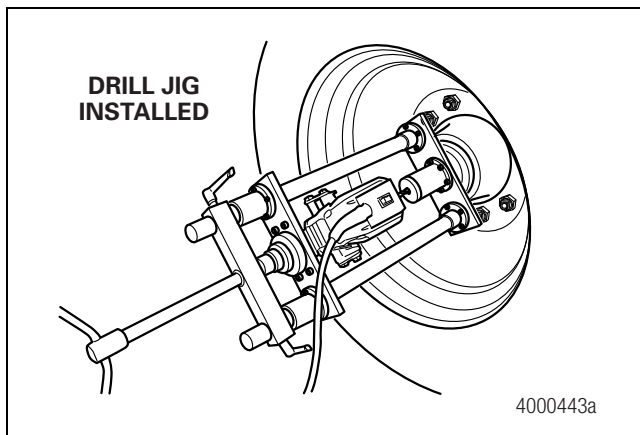

Figure 2.36
- If the drill stalls or lags:** Back off the advancing handle **COUNTERCLOCKWISE** a few turns while the drill is on, then resume drilling. Figure 2.36.